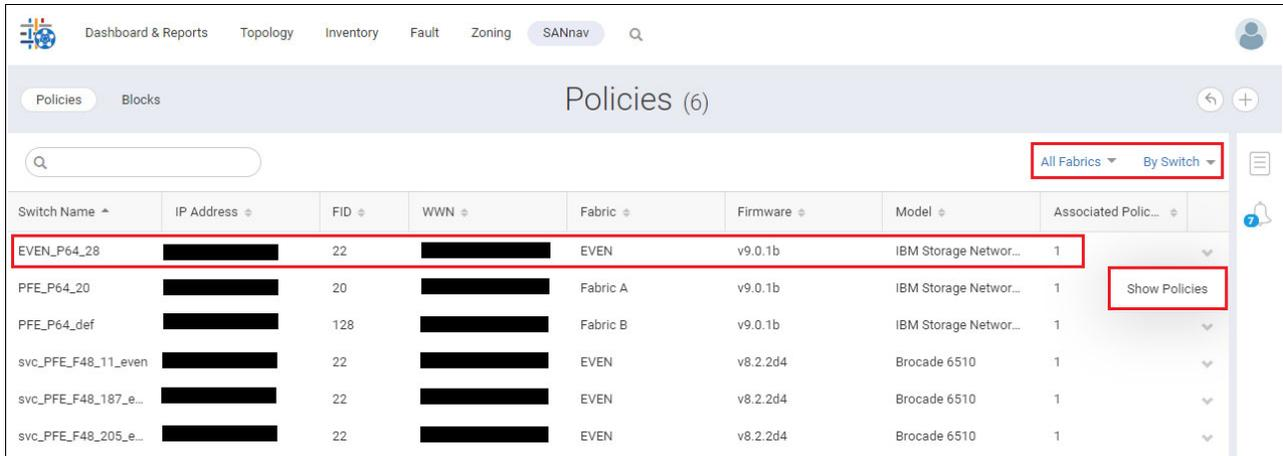

Figure 5-9 Show Policies By Switch
- You can view the Policies window by the switch view option. You can filter switches from the **All Fabrics** drop-down menu. To view the configuration policies that are associated with a switch, click the down arrow in the rightmost column of the switch, and then select the **Show Policies** option, as shown in Figure 5-9.